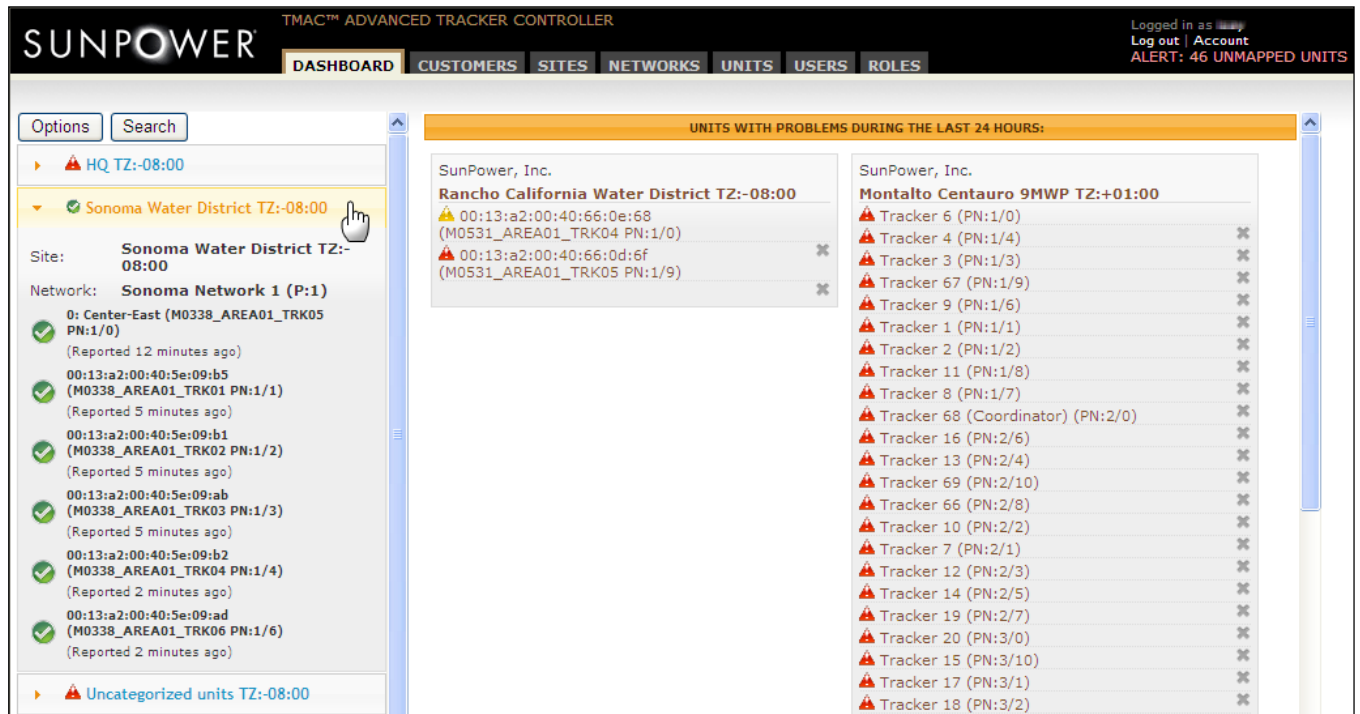

Fig. B5
1. Click the name of the site in the site list (Fig. B5).